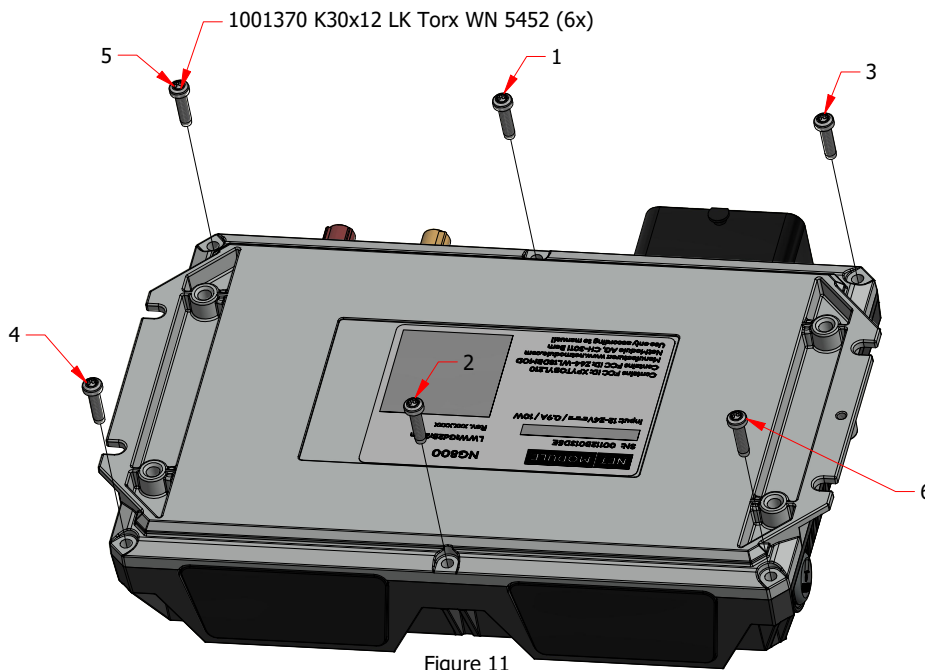

Figure 11
- 5.2 Flip the bottom side upwards according (Figure 11)
- 5.3 Place the 6 screws in the mounting holes of the cover (Figure 11)
- 5.5 Tightening sequence: from screw 1 to 6 (Figure 11)